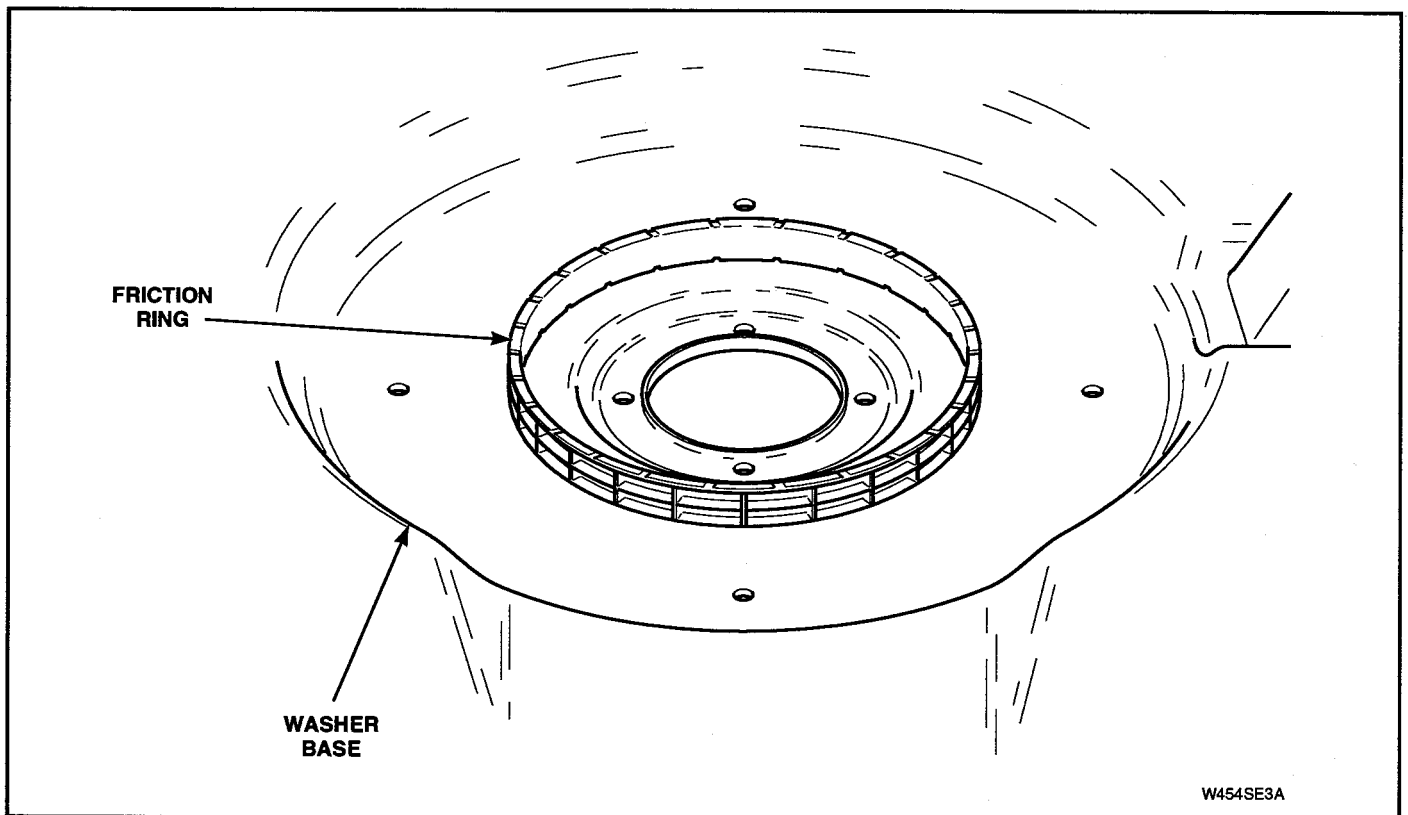

Figure 5-43
- Remove old friction ring from washer base. See Figure 5-43.
- Carefully place complete tub module back into washer making sure the weldment assembly (pivot dome area) is positioned properly over the friction ring and the recess area of washer base. See Figure 5-43.